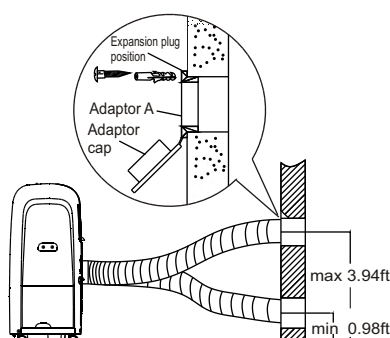

Fig. 21
1. Prepare a hole in the wall. Install the wall Exhaust adaptor A onto the wall(outside) by using 4 expansion plugs and wooden screws, be sure to fix thoroughly. (See Fig. 21)